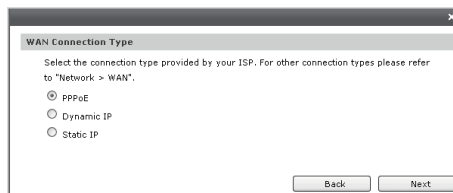

Figure 5-7 WAN Connection Type
6. Select the connection type provided by your ISP (Internet Service Provider) as the Figure 5-7 shown. Three popular types are provided here. For other connection types, please refer to the **Network**→**WAN**.